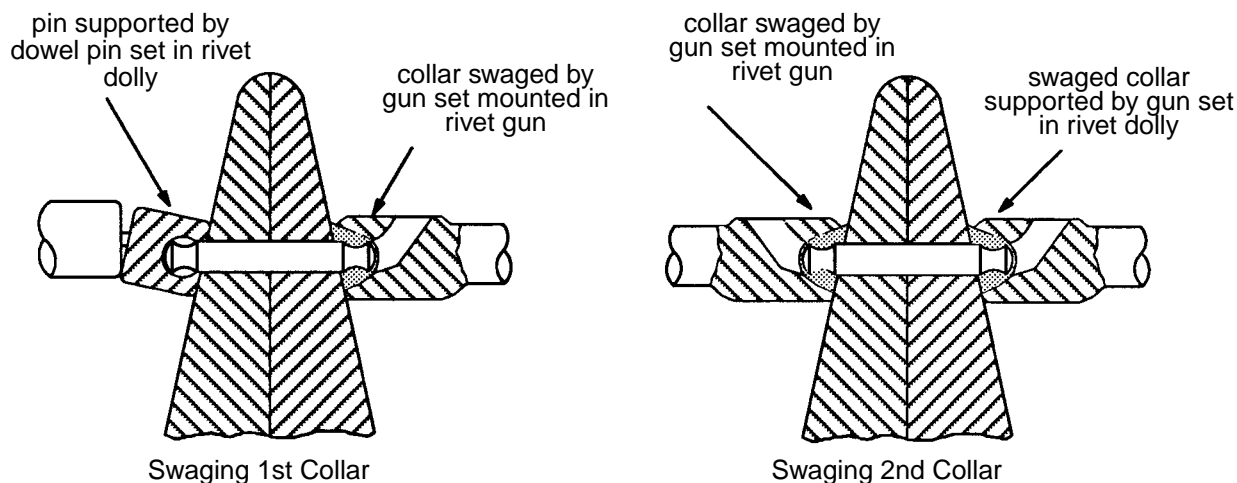

Figure 17 - Percussion Riveting Method for Dowel Pins
5.6.6 Swage collars onto dowel pins using the percussion riveting method for dowel pins as follows (see Figure 17):